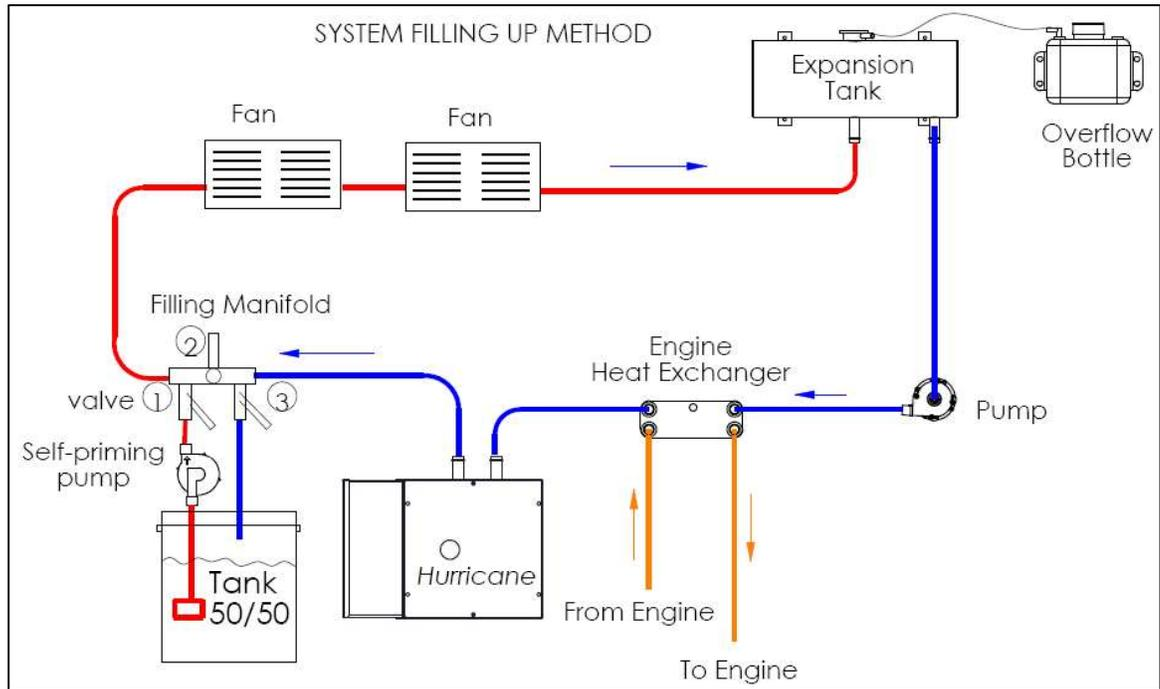

Figure 8-2: Filling System with Fluid Using “Manifold Method”
- 2 Attach the outlet of the self-priming pump to the manifold inlet and a spare hose from the tank to the manifold outlet. (See figure 8-2)
- 3 Close the middle valve (2) and open both in-outlet valves (1 & 3). This forces the fluid to circulate through the 50/50 tank